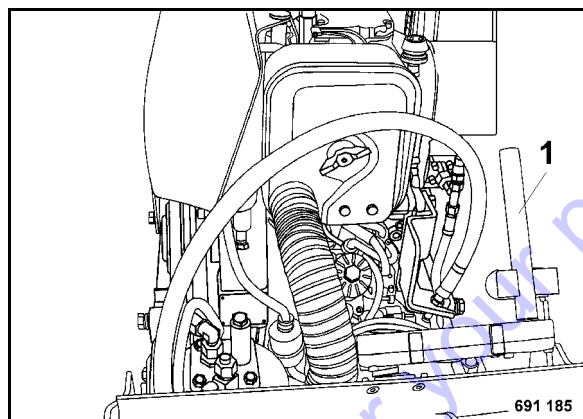

Fig. 28
- Hook the safety crank handle 1 (Fig. 28) back into the bracket.